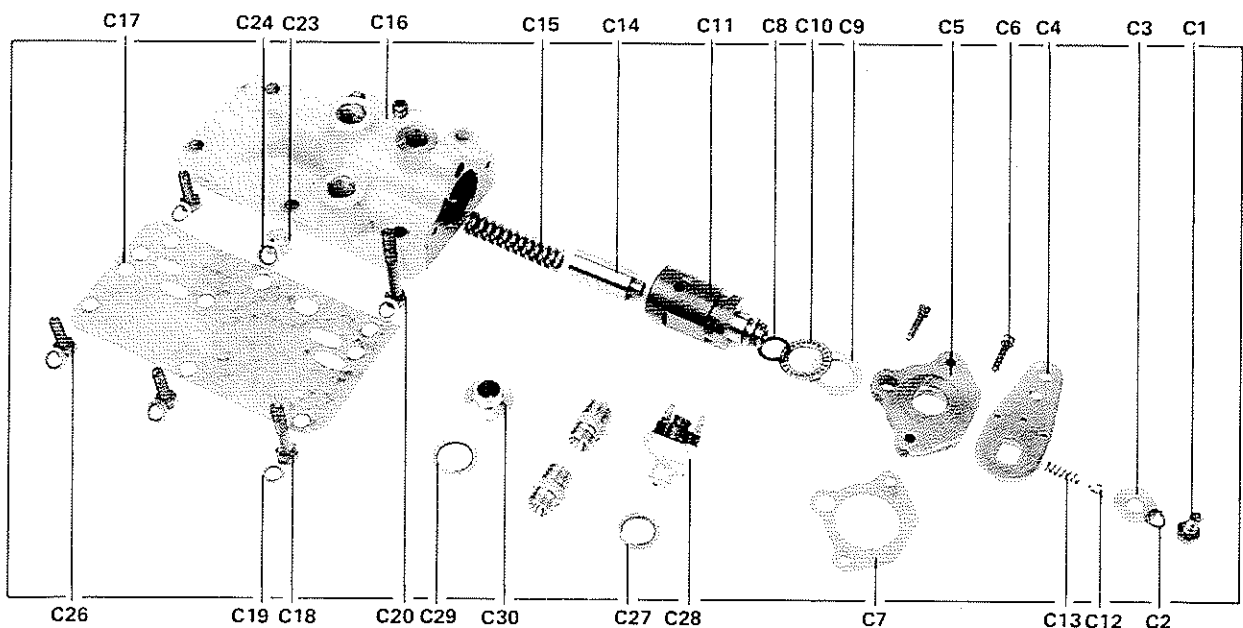

Fig 13 Valve block assembly
5. Where a loading tool is not available use a thin metal strip, long enough to lay along the shaft above the grooves. Expand each ring just sufficiently to allow it to be placed in its approximate position over the strip. Gently withdraw the strip and locate the rings in their respective grooves. (see Fig. 13).